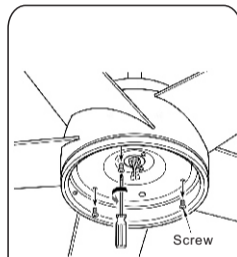

Fig.24
Step 4: Remove the 3 screws from light kit plate And connect the wires between the fan and LED assembly with the connectors.(Fig. 24&25)